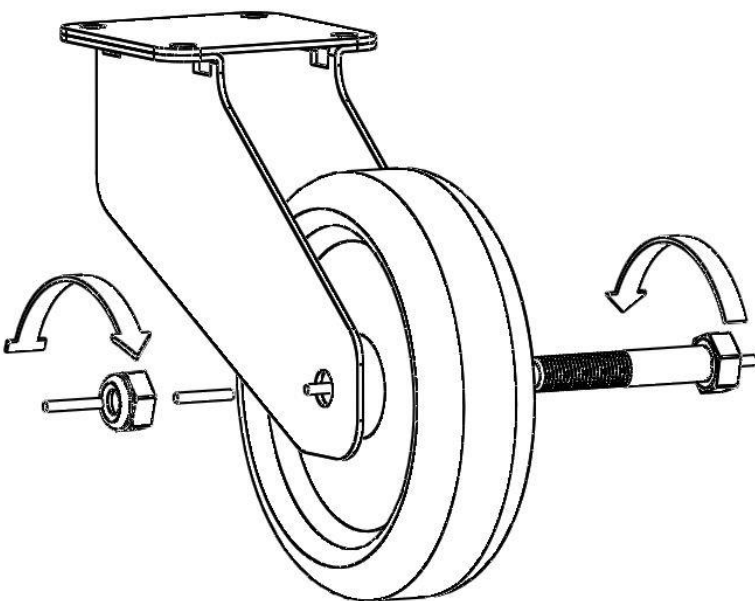

Fig. 1.1
1. Turn the castors using the M8 screw and the self-locking nut (SM8 NK) as shown in Figure 1.1.